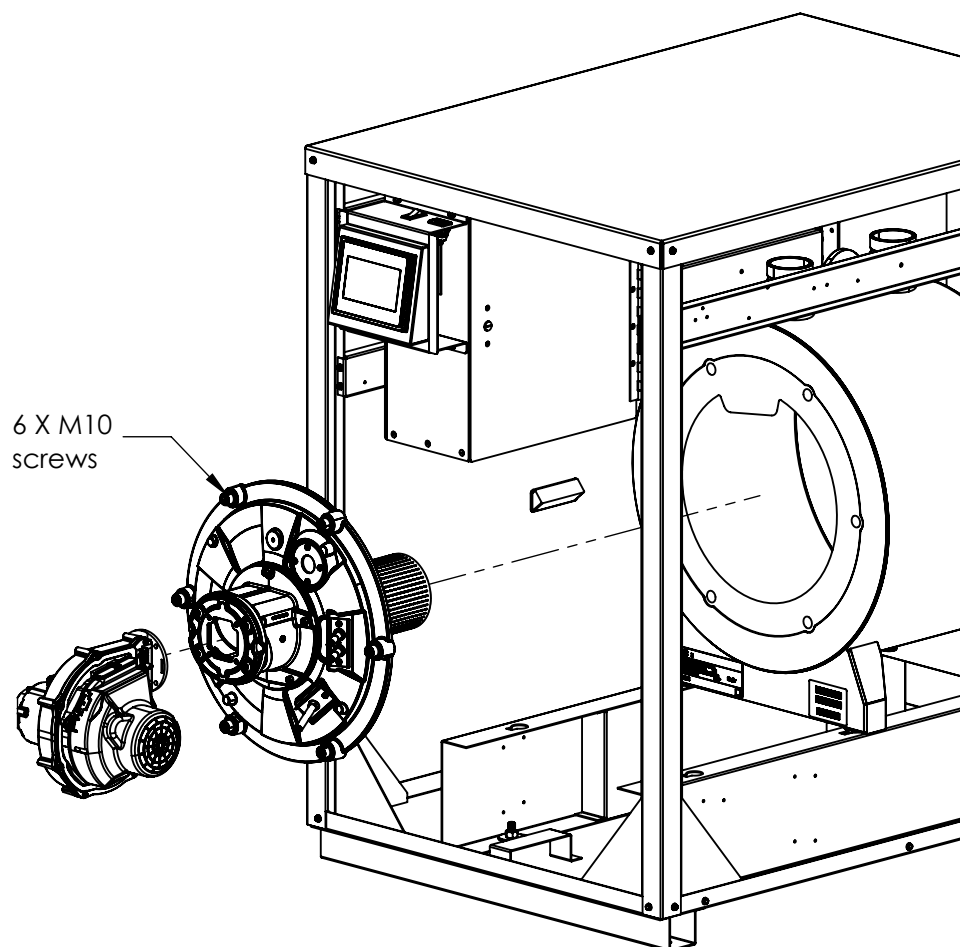

Figure 31: Burner Door Opening
- e. The burner door, blower, and mixer assembly can be pulled out of the appliance jacket as shown in Figure 31.